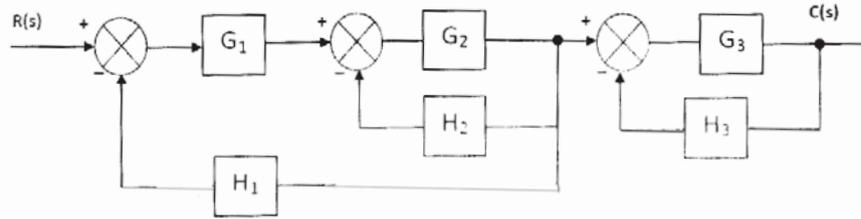

Fig. 2
- b) Using the block diagram reduction technique, determine the transfer function  $C(s)/R(s)$  shown in Fig. 2. [6]
- b) Draw the signal flow graph for the block diagram shown in Fig.2 and hence obtain the transfer function  $C(s)/R(s)$  by using Mason's gain formula. [6]